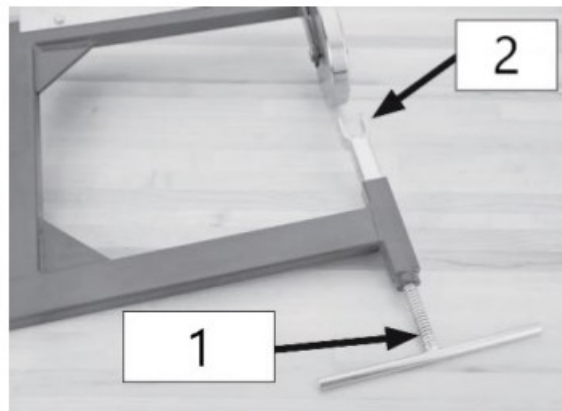

Fig. 6 – Installed lower cylinder-adjustment screw
3. Lay down the frame and screw the lower cylinder-adjustment screw into the frame vis-à-vis the cylinder holder (see Fig. 6).